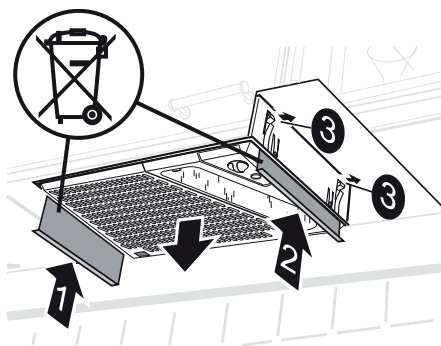

Fig. 5
Press up the disassembling (1 and 2) between the cooker hood and the suspension frame to disengage the springs (3). Pull down the cooker hood from the suspension frame, Fig. 5.